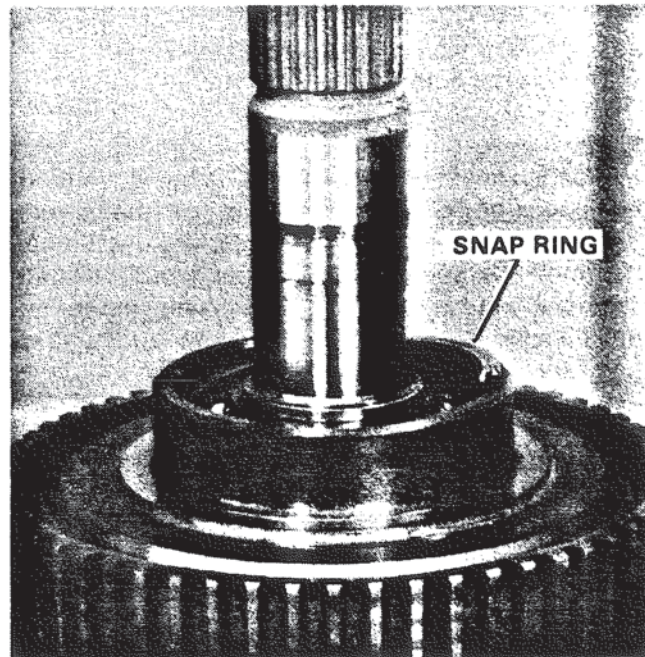

Figure 67. Installing Internal Snap Ring.
5. Install internal snap ring in clutch cylinder. Figure 67.